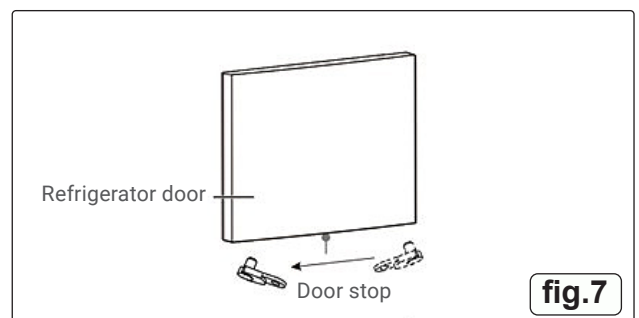

fig.7
8. Unscrew and remove the door stop from the bottom right of the refrigerator door. Reinstall it on the bottom left side. Fig.7
9. Align and install the refrigerator compartment door onto the newly positioned lower hinge pin. Fig.7